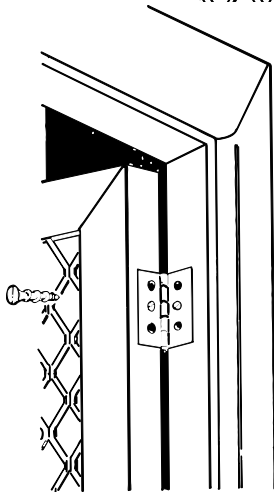

Fig 12 Screw fix the hinges to the door jamb using one screw first.
4. Set the door in an open position (Fig 12) lining up with the hinge marks. Now, mark the hinge screw holes and install one screw per hinge. Test the operation of the door, if satisfactory, install the remaining screws.